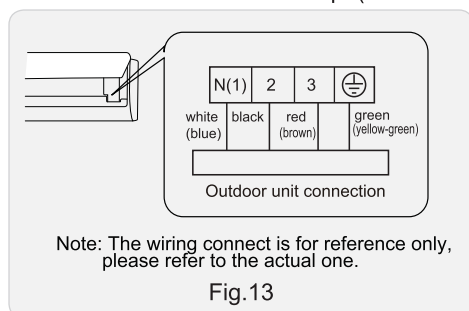

Fig.13
(3) Remove the wire clip; connect the power connection wire (only for cooling and heating unit) to the wiring terminal according to the color; tighten the screw and then fix the power connection wire with wire clip. (As show in Fig.13)